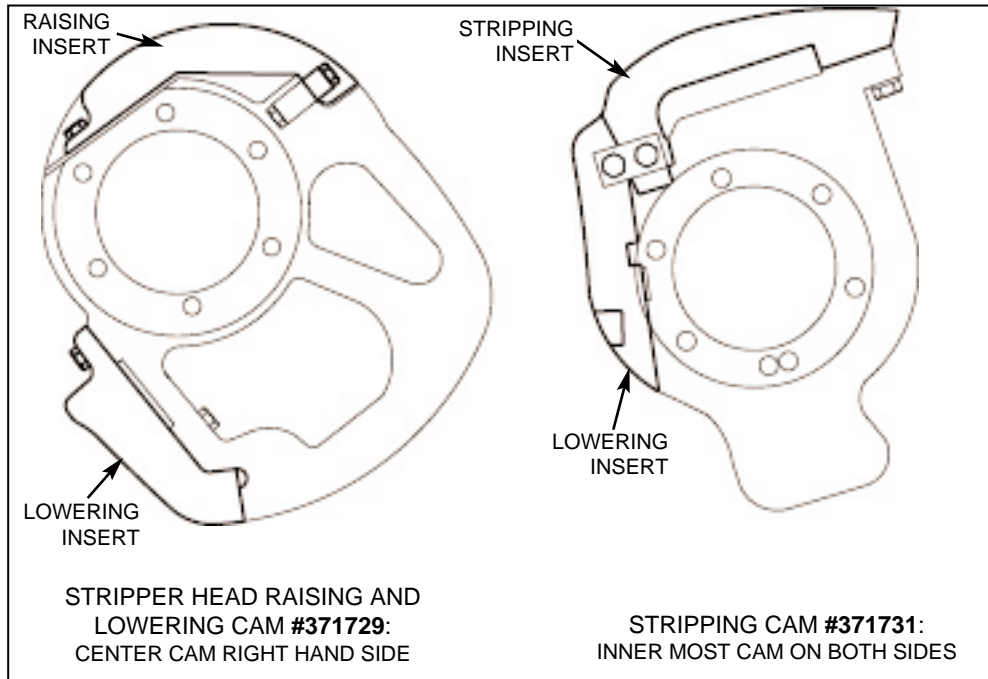

Figure 4.28 CAM INSERTS.
4.2.5 Install stripping cam insert **# 371731** on each side of the machine and one stripper head raising cam insert **# 371729** on the right side of the machine (see figure 4.28).